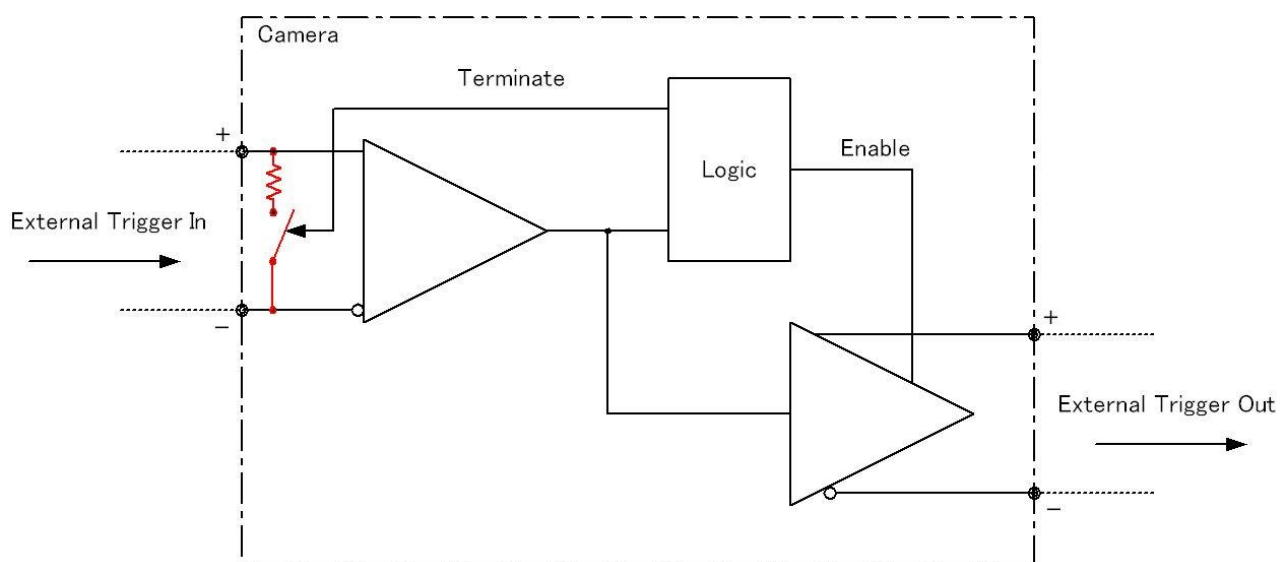

Figure 3-4-7 Relation of External Trigger Input and Output
1.1.1.1. The external trigger output uses the external trigger input driver as an intermediary as shown in figure 3-4-7. Therefore it is possible to switch the output ON/OFF by use of an enable resistor. For settings, see “4.2.3 Setting Line Source”.